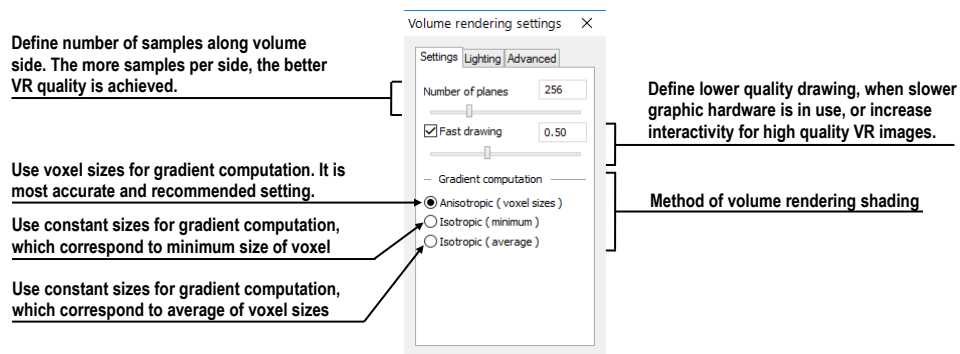

Figure 326 - Volume rendering settings, the first tab
- Basic volume rendering quality on the first tab (see Figure 326)